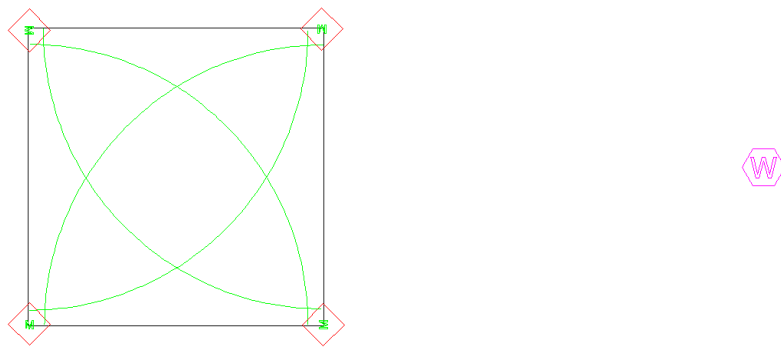

Figure 4-7
9. Place an outlet at each corner of the square by left-clicking. You will notice that the arcs are not oriented to water inside the square. We will manually fix this by selecting *Modify|Change* and clicking on a wetted arc. In the dialog change the “Start Angle” to be **0, 90, 180** or **270** as required (bottom left = 0, top left = 270, top right = 180 and bottom right = 90) as in Figure 4-7. Click [OK].